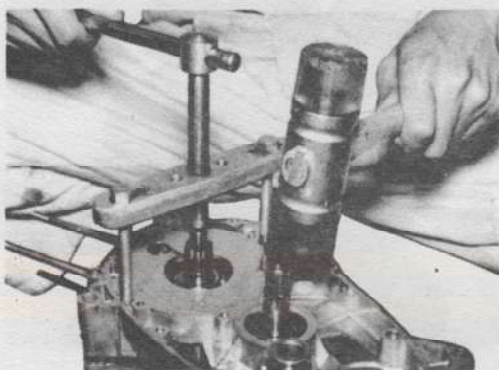

Fig. 3-55
- b. Separate the crankcase using a crankcase dividing tool. (Figs. 3-55 and 56)